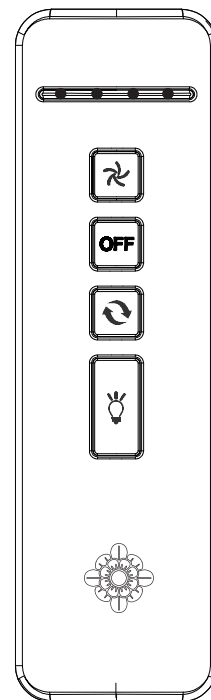

Fig. 5
**The buttons on the remote control transmitter control the fan speed and light as follows. (Fig. 5)**